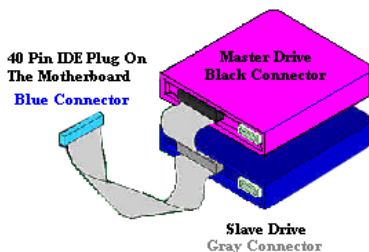

Figure 2-8. How to connect an ATA/66 cable to the Motherboard
- Attach the **BLACK** connector to the mating plug on the master hard drive. Attach the **GREY** connector to the mating plug on the slave drive (secondary hard drive, CD-ROM, or tape drive). Please refer figure 2-8.